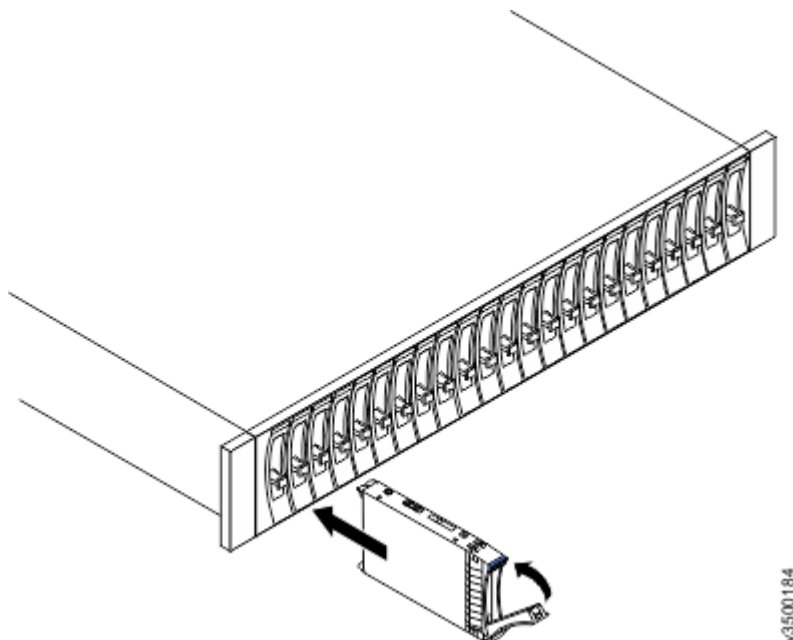

Figure 88. Installing and locking a 2.5-inch drive into its slot
13. Align the drive assembly with the guide rails in the bay (see Figure 88 on page 132).